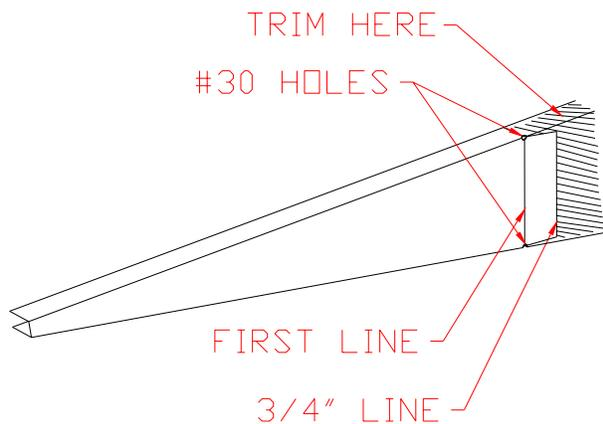

Figure 3.4.6
- 10) Position an Elev/Rud Rib on top of the skin over the 'V' cut out so the trailing edge is parallel with the trailing edge of the of the other ribs. Mark the rib where it will need to be trimmed to fit against the center doubler. Figure 3.4.6
- 11) Mark a second line $\frac{3}{4}$ " up from the first. Drill two holes in the corners at the first line. Trim at $\frac{3}{4}$ " line as in figure 3.4.6.
- 30) Using the same technique as you did in figure 3.4.6., make 90 degree flanges to pick up the trim tab spar. If this is not possible on all the offcuts, use a piece of angle(ST-40) to make the flanges.